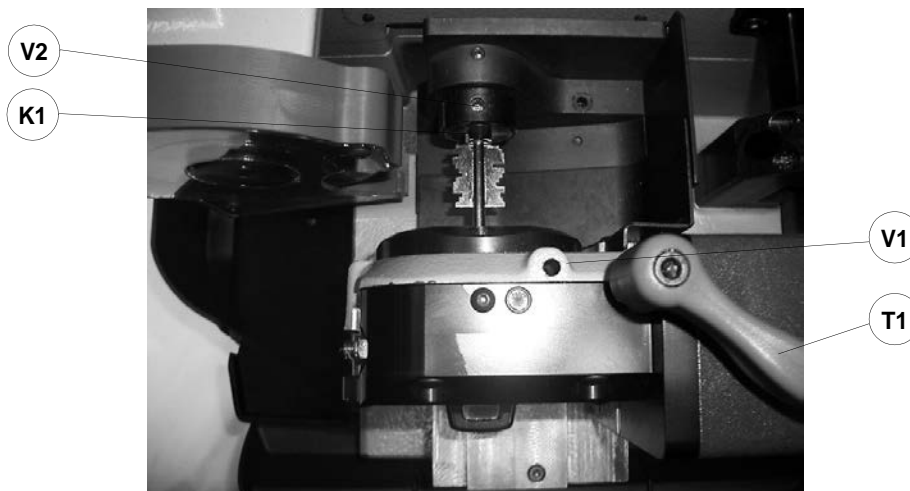

Fig. 31
- 2) Orient the standard tailstock (K1) for male keys in the special seat on the support, using the screw (V2) to direct it upwards (fig. 31).
- 5) Close the mobile clamp jaws slightly, using the T wrench already in the screw (V1), without gripping the key stem; move the rotating clamp (G) towards the tailstock, keeping a minimum safety distance of 10 mm between the rotating clamp jaws and the rear limit of the bit. Secure the rotating clamp in position by means of knob (T1).